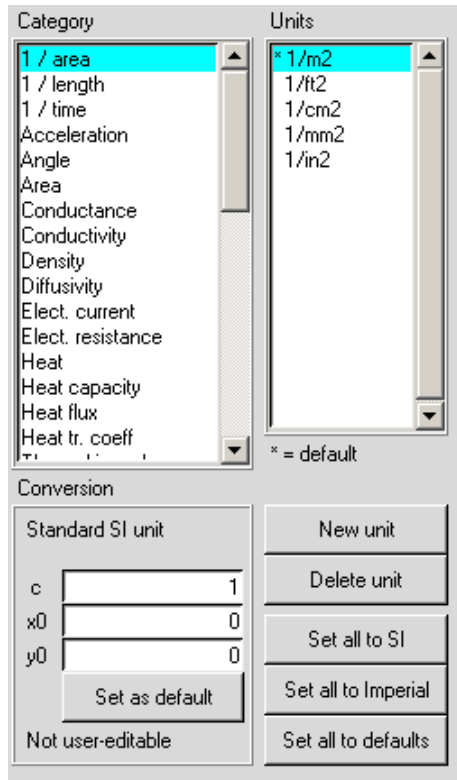

Figure 5.3.1: The Units Section of the Preferences Panel
If you would like a mixed unit system, or any unit system different from the default SI system supplied by Airpak, you can use the **Units** section of the **Preferences** panel (Figure 5.3.1) to select an available unit or specify your own unit name and conversion factor for each quantity.
Before customizing units for one or more quantities, you may want to view the current units. To view the built-in definitions for a particular category, select the category in the **Category** list in the **Units** section of the **Preferences** panel (Figure 5.3.1). The built-in definitions will be displayed in the **Units** list. For example, to view the built-in definitions for length, select **Length** in the **Category** list. The built-in definitions for length are displayed in the **Units** list: m, ft, cm, mm, microns, in, mil, and Cu-oz/ft².
1. Select the quantity in the **Category** list (they are arranged in alphabetical order) in the **Units** section of the **Preferences** panel (Figure 5.3.1).
You would then click **Set as default** to make inches the default unit of length for your model (see Figure 5.3.1).
i It is not possible to edit the **Conversion** factors for units that are predefined in Airpak; these units are marked as **Not user-editable** under **Conversion** (see Figure 5.3.1).
1. In the **Units** section of the **Preferences** panel (Figure 5.3.1), select the quantity in the **Category** list.